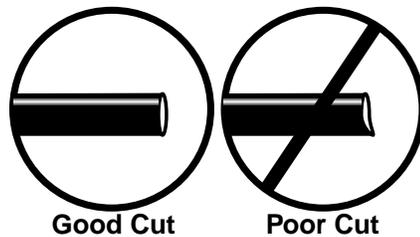

fig. 11
- WHEN CUTTING OR TRIMMING THE AIR LINE, USE A HOSE CUTTER, A RAZOR BLADE OR A SHARP KNIFE. A CLEAN, SQUARE CUT WILL ENSURE AGAINST LEAKS. DO NOT USE WIRE CUTTERS OR SCISSORS TO CUT THE AIR LINE. THESE TOOLS MAY FLATTEN OR CRIMP THE AIR LINE, CAUSING IT TO LEAK AROUND THE O-RING SEAL INSIDE THE ELBOW FITTING (FIG. 11)
7. Cut off air line leaving approximately 12" of extra air line. A clean square cut will ensure against leaks (see fig. 11). Insert the air line into the air fitting. This is a push to connect fitting. Simply push the air line into the 90° swivel fitting until it bottoms out (9/16" of air line should be in the fitting).
- a. Check the air line connection by deflating the spring and removing the line by pulling the collar against the fitting and pulling firmly on the air line. Trim 1" off the end of the air line. Be sure the cut is clean and square (see fig. 11). Reinsert the air line into the push-to-connect fitting.